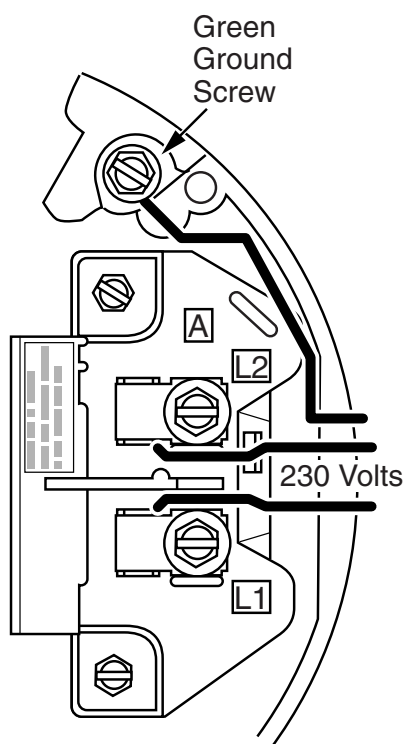

Figure 12 – 230V Single Phase Wiring Diagram
Connection diagram for single-phase motors. Your motor's terminal board (under the motor end cover) should match the diagram in Figure 12.
7. Connect current carrying conductors to terminals L1 and L2 under motor canopy. When replacing motor, check wiring diagram on motor nameplate against Figure 12. If the motor wiring diagram does not match the diagram in Figure 12, follow the diagram on the motor.